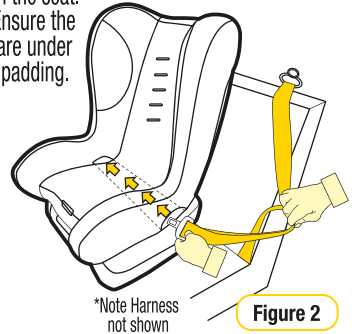

Figure 2
**Step 2:** Feed adult lap or lap/sash belt through the belt path opening, ensure the seat belt is under the cover & between the layer of foam and the plastic seat base. (refer Figure 2 & 3).